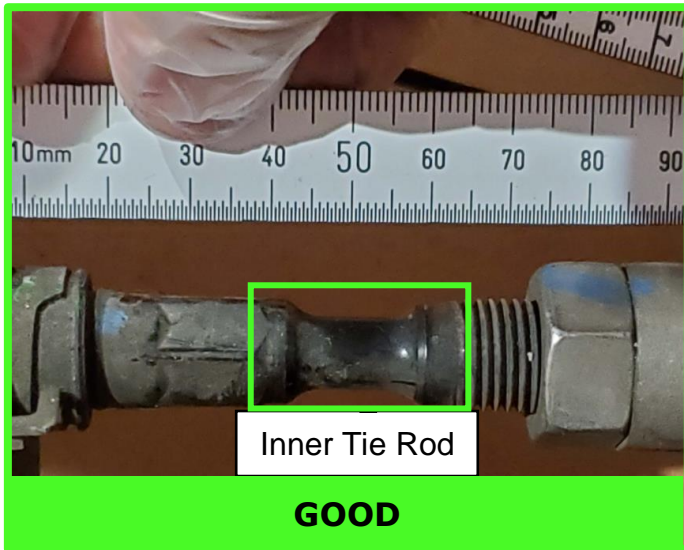
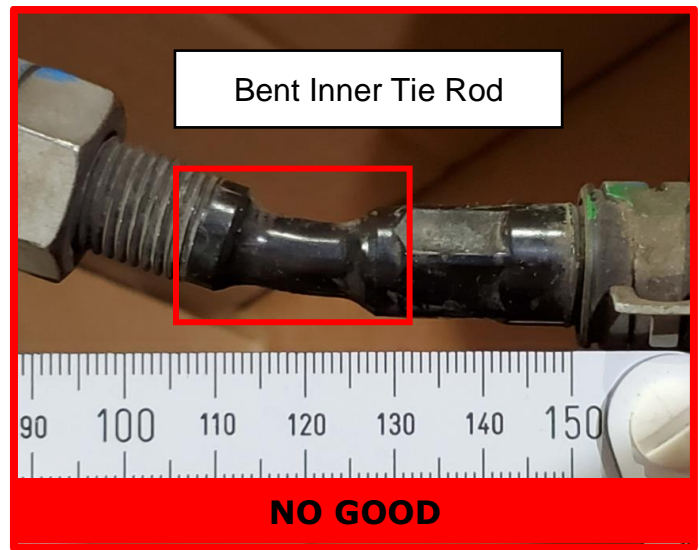

Figure 3
Figure 4
4. Visually inspect both LH and RH inner tie rods for bends. (Figure 3, Figure 4)
- The picture shown in Figure 4 has an exaggerated bend. Inner tie rods found to be bent, may not be as extreme.